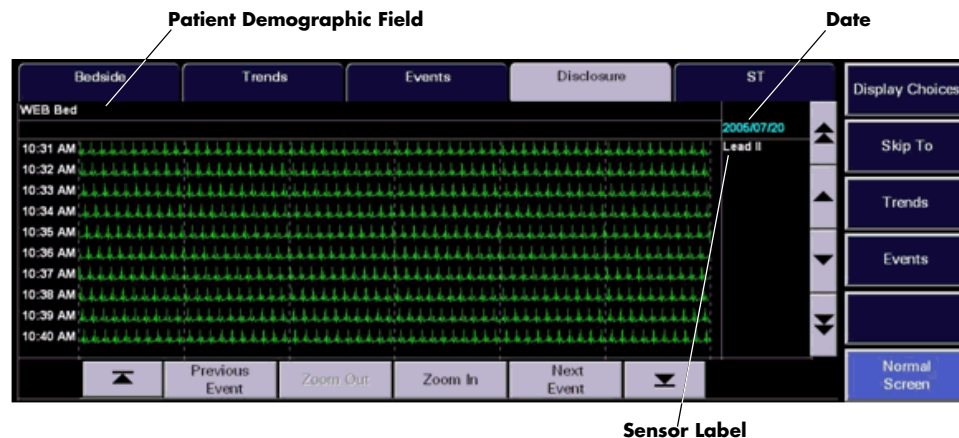

FIGURE 7-21 Disclosure Tab - Compressed View (Central Station, ViewStation, WorkStation)
The **Disclosure** tab is available at the ViewStation and the WorkStation (shown in FIGURE 7-21) and functions in the same manner as it does at the host central station. The **Disclosure** tab will display the disclosure data from the central station, provided the patient file is communicating with the central station.
2. Select the **Disclosure** tab. The **Disclosure** tab (shown in FIGURE 7-21) **Compressed** view is displayed.
The date the selected waveform data was recorded is displayed in the upper right corner of the waveform area (shown in FIGURE 7-21).
A sensor label for the selected waveform data is also displayed in the upper right corner of the waveform area, just below the date (shown in FIGURE 7-21).